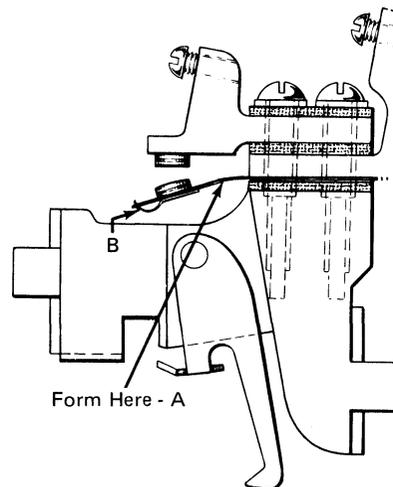

Figure 3-14. Latching Plunger Circuit Breaker—Adjustment 1
1. The lower contact strap should be formed at point A to provide proper tension (Figure 3-14). At the factory these straps are adjusted so that a force of 160 grams, ± 10 grams, applied at the tip of the